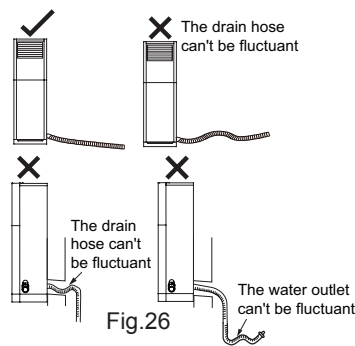

Fig.26
- 2.Slant the drain hose slightly downwards. The drain hose can't be curved, raised and fluctuant, etc. (As show in Fig.26)